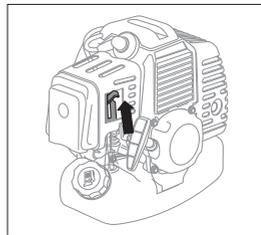

fig. 9
4. Move the choke lever to the top position - | / | "Closed" (fig. 9).
7. Move the choke lever (fig. 9) to the middle position.